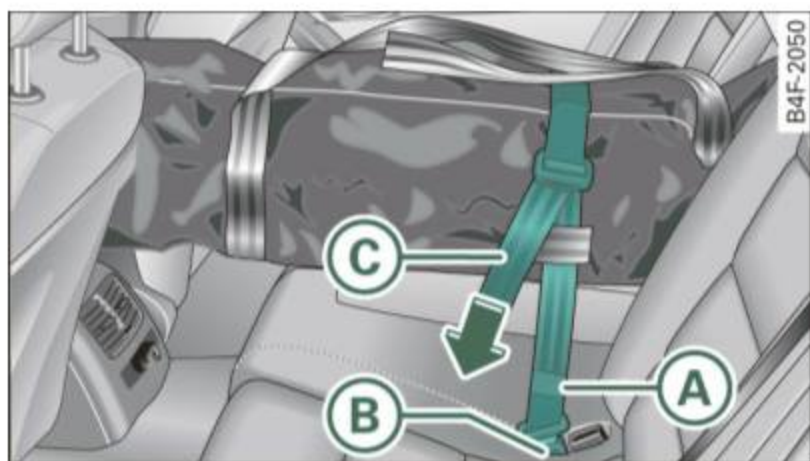

Fig. 95 Ski sack: securing with rear seat safety belt
- Insert the ski sack strap (A) ⇒ fig. 95 in the center buckle (B).
- Pull the safety belt taut on the free end of the belt (C).
- Sharp edges on the load must be covered for protection. Always fasten the belt tightly around the sack and its contents ⇒ fig. 95.